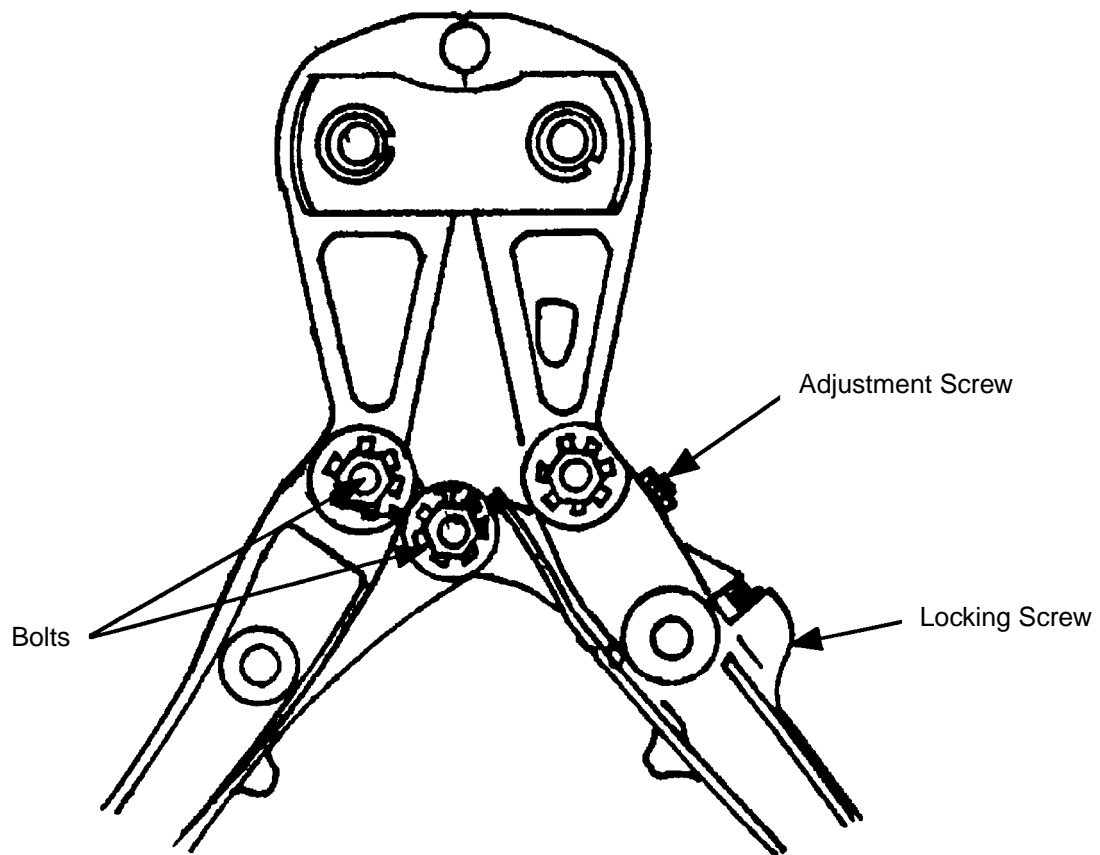

Figure 7 - Adjustment of Hand Tools
- 9.2 Ensure hand tool handles are easily movable. Jamming may be corrected by loosening of the particular jaw or handle bolt which is causing the binding (see Figure 7).
- Step 1. Open the tool handles fully and loosen the locking screw with an Allen wrench and turn the adjustment screw clockwise (a fraction of a turn at a time) until the proper setting is obtained before re-tightening the locking screw (see Figure 7).